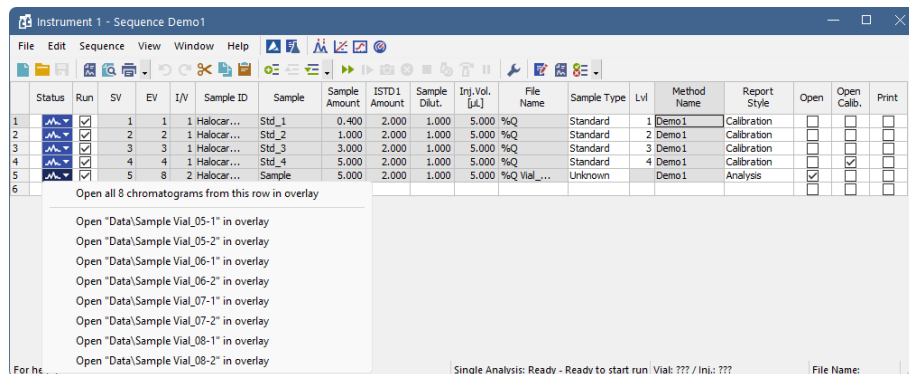

Fig. 16: Opening chromatograms in overlay
- Also note that in the fields *Sample Type* and *Lvl* ②, the first four samples are marked as standards on levels 1-4. Chromatograms measured from those rows will be automatically used for creating the calibration (or its recalibration, if there had already been some data in the calibration).
- Already measured rows will change their *Status* from green field () to icon with small chromatogram (). During the measurement, the icon is orange. A small triangle will appear in the icon  if a chromatograph is produced by the particular measurement in the row. Left mouse click on the triangle will reveal the option to open the chromatogram(s). You can click on the name of the chromatogram to open it or select option to open all chromatograms in overlay as seen in **Fig. 16** on pg. 27.